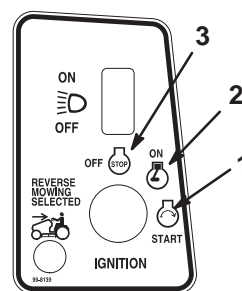

Figure 10
5. Turn the ignition key clockwise and hold it in the Start position (Fig. 10). When the engine starts, release the key.
2. Turn the ignition key to Off and remove the ignition key (Fig. 10).